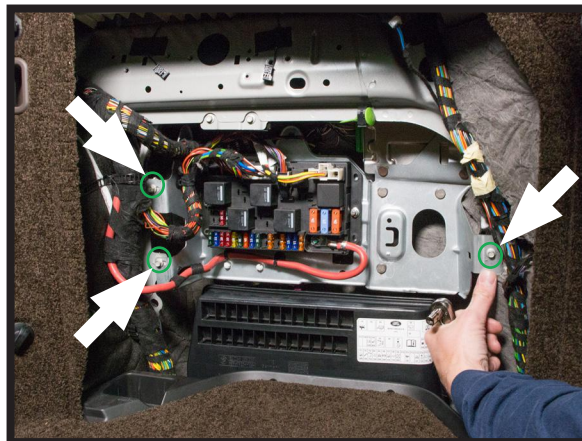

FIGURE 66
2. REMOVE THE (3) SCREWS HOLDING THE FUSE PANEL IN PLACE TO ACCESS THE REVERSE SIDE. (FIGURE 66)